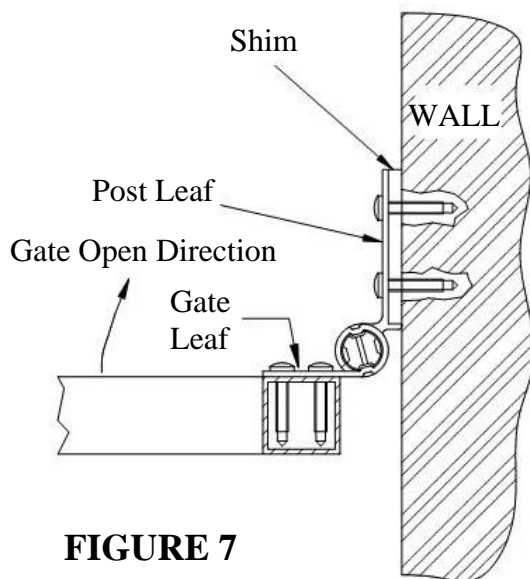

FIGURE 7
- 3.5. If the hinge is to be mounted on a flat surface you may need to shim out the hinge post leafs so that the hinge does not rub or bind against the mounting surface. See Figure 7.